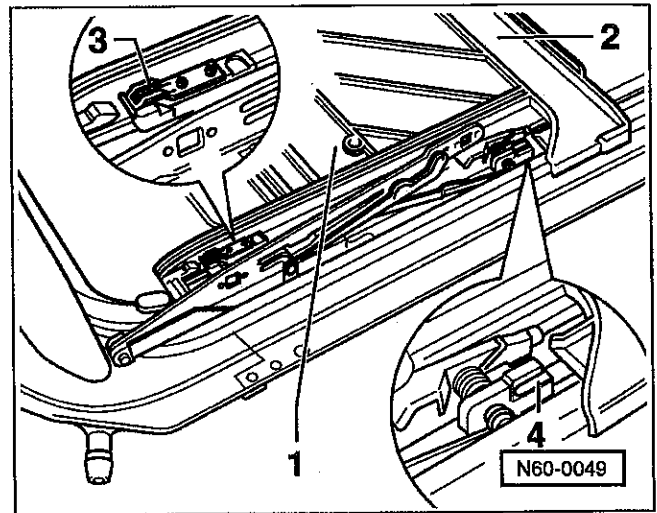

Fig. 1. Slide headliner (1) and trim frame (2) to rear. Insets show trim frame clip (3) and trim frame guide (4).
2. Unclip and slide trim frame to rear. Trim frame is clipped into front guide. See Fig. 1.